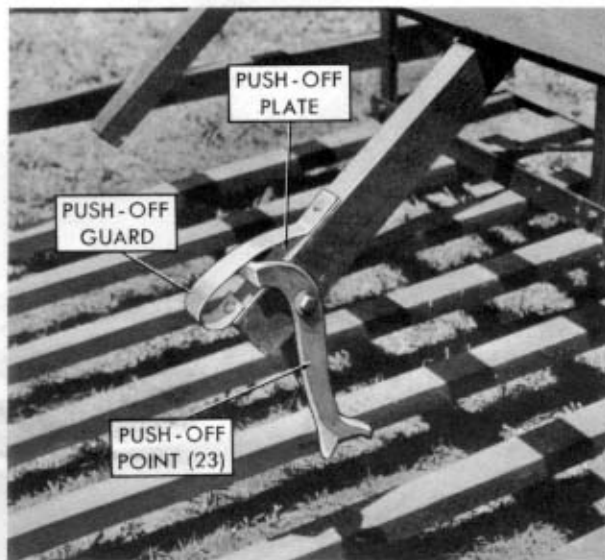

Figure 6
**Step 21:** Attach push-off point and guard assemble (23) to bottom end of center push-off upright. See Figure 6.